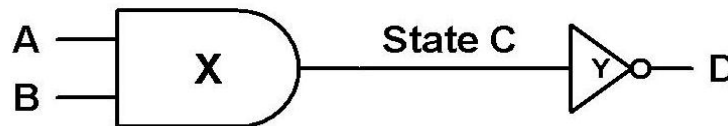

Figure 12
- c) Look at **Figure 12** and then answer the questions.